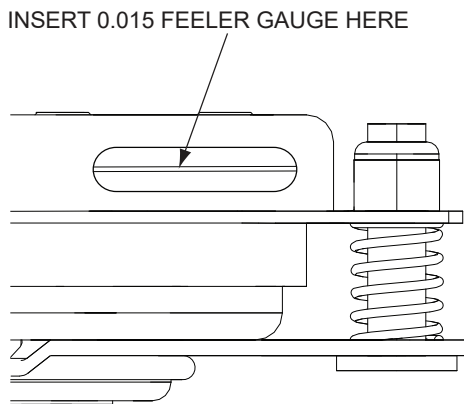

Figure 6-12. Clutch Air Gap Adjustment
2. Place a 0.015 feeler gauge in the slot between the rotor and the armature. See Figure 6-12.